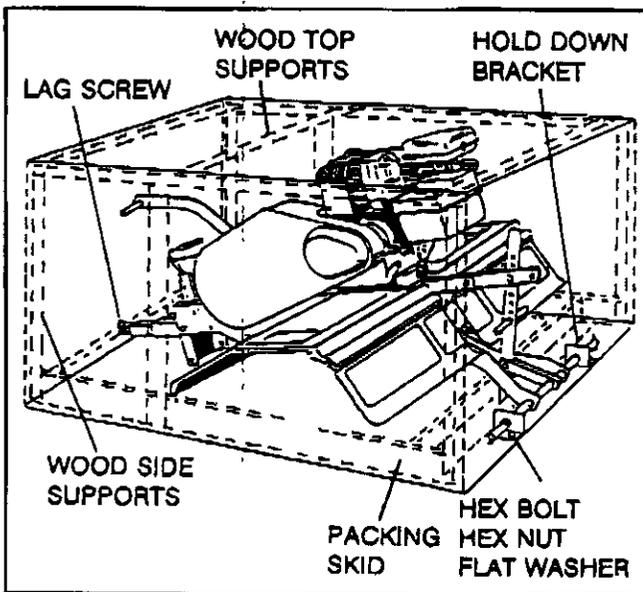

FIG. 1
- Cut from top to bottom all four corners of the carton and lay panels flat: (See Fig. 1)